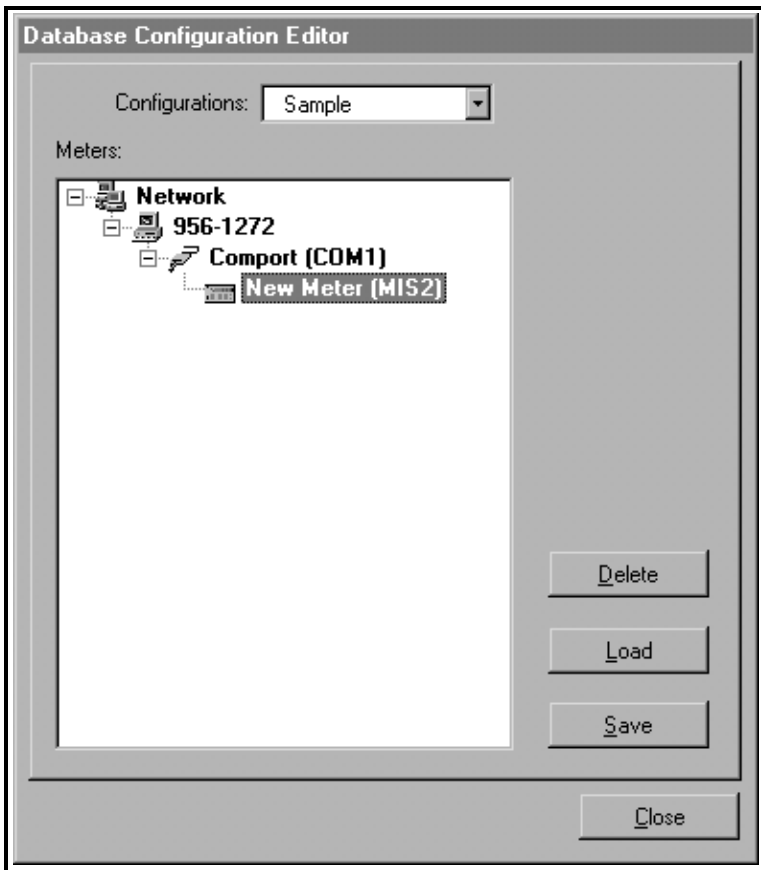

Figure 5-15: Select a Configuration
2. Make sure that the name of the desired configuration is chosen from the dropdown list and is visible in the text box (see Figure 5-15 below). Then, click on the [Load] option button.